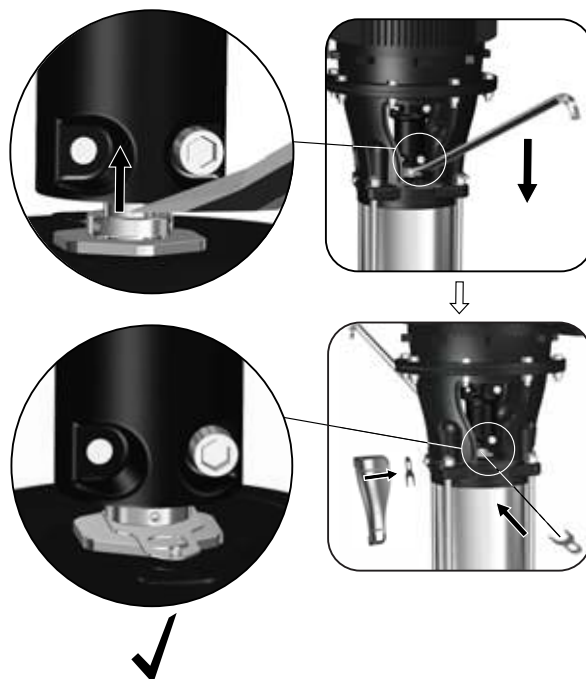

Fig. 9 Lifting pump shaft and fitting adjusting fork.
22. Tighten the three set screws (113) to the specified torque. See section 7.1 *Torques*.
23. Lift the pump shaft with a crowbar and insert the adjusting fork F. See fig. 9.